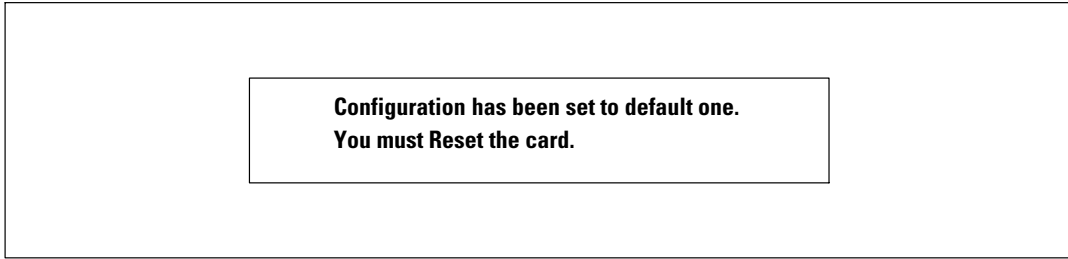

Figure 45. Default Configuration Confirmation Message
Select menu item 4 to restore the parameters to the factory-default configuration (see “Card Defaults” on page 11). Wait for the confirmation message (see Figure 45). Restart the card to save the default parameters.